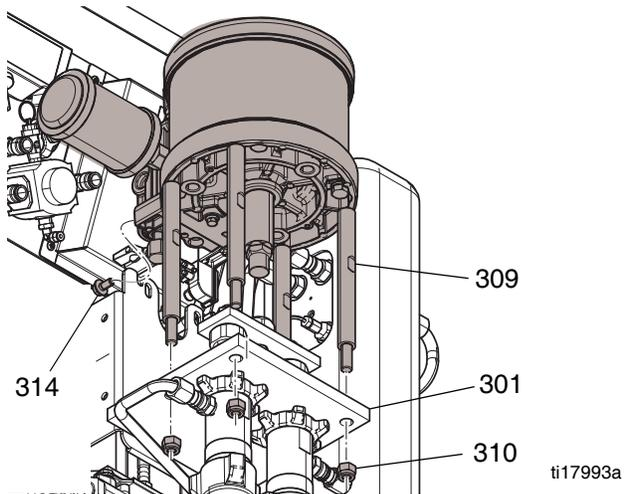

FIG. 2
- Install tie rods through plate (301). Ensure screws (314) fit in the bracket slots (311). Install screws (314). See FIG. 2, page 26.
- Tighten nut (313) to 32-38 ft-lbs (43-51 N•m).
- Evenly torque four tie rod nuts (310) in small increments to 27-32 ft-lbs (37-43N•m). See FIG. 2, page 26.